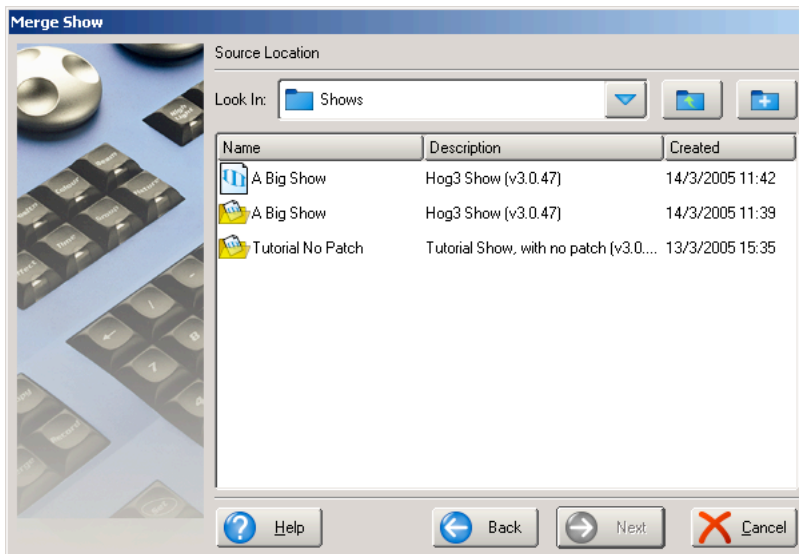

Figure 13.22. The Source Location page of the Merge Show window
2. Press Merge to be guided through the merge process. The Merge Show window will open; see *Figure 13.22, “The Source Location page of the Merge Show window”*.